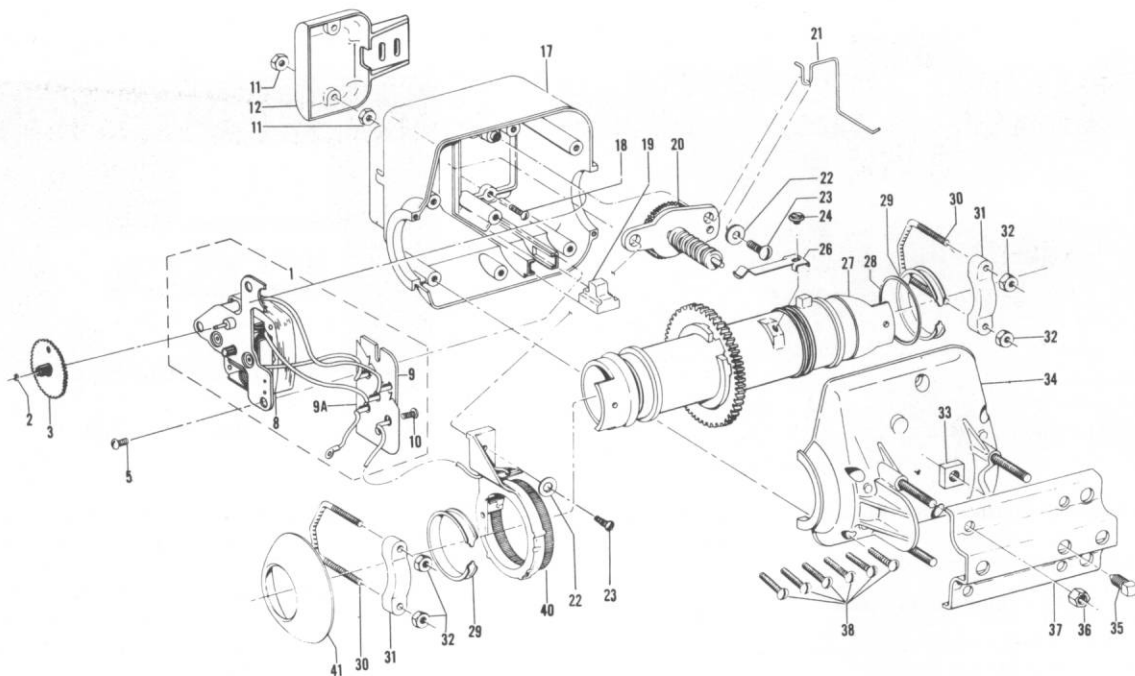

Fig. 73. Exploded View of Model C-225 Rotator Unit.
2. Hollow shaft assembly (Item #27, Fig. 73, Chapter X) must have "play."